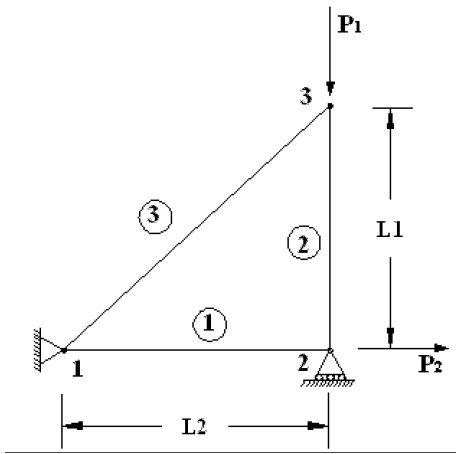

Figure 7 (Q-5c)
- (c) A three element truss as shown in figure 7 has modulus of elasticity  $E = 200$  GPa. The area of each element is  $50\text{ mm}^2$ . The length  $L_1 = 1000\text{ mm}$  and  $L_2 = 750\text{ mm}$ . The load  $P_1 = 25\text{ kN}$  and  $P_2 = 30\text{ kN}$  are applied as shown. Determine the nodal displacements, reaction forces and elemental stresses. 07